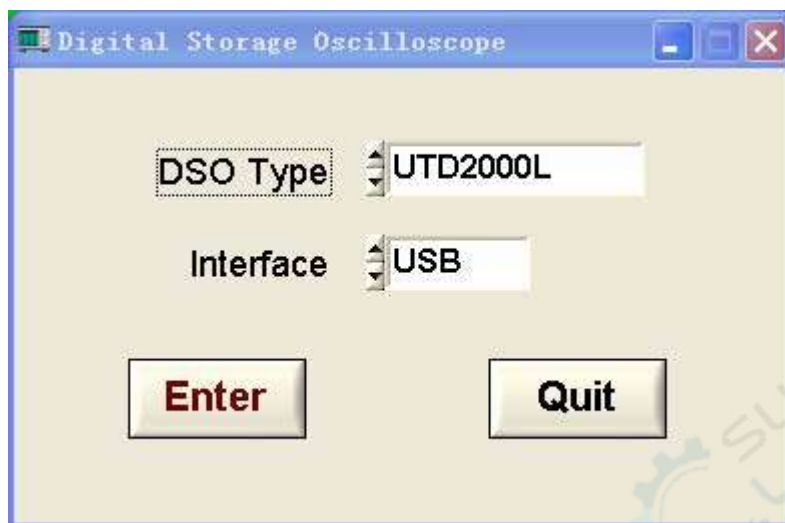

Figure 1-19
- (3) In the pop-up dialogue box, select the interface type that matches your oscilloscope model (Figure 1-19).